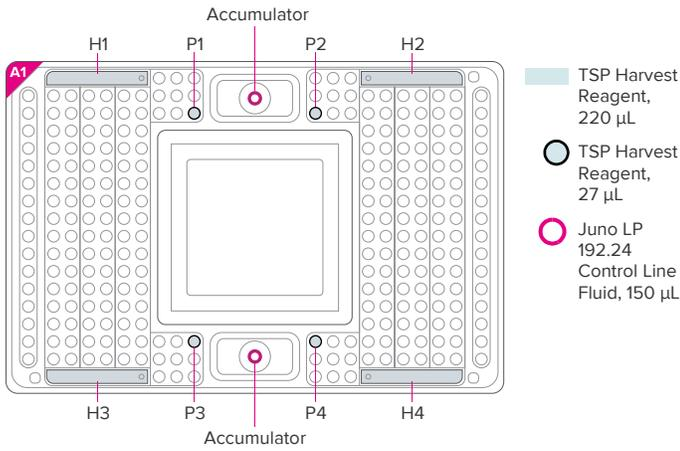

Figure 4. Priming map for the LP 192.24 IFC
- 3 Inject LP 192.24 Control Line Fluid into each accumulator on the IFC (see Figure 4).
- 4 Place the IFC on a flat surface and pipet 27 µL of TSP Harvest Reagent into each of the inlets P1, P2, P3, and P4 (see Figure 4).
- 5 Place the IFC on a flat surface and pipet 220 µL of TSP Harvest Reagent into each of the harvest reservoirs H1, H2, H3, and H4 (see Figure 4).